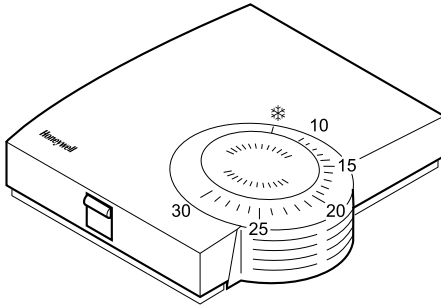

Fig. 14: Room unit HCW 80 (settings on the scale in °C)
- Select the desired room temperature set point at the adjustment dial (see Fig. 14).
- Check whether the adjustment dial is in the position shown in Fig. 14.